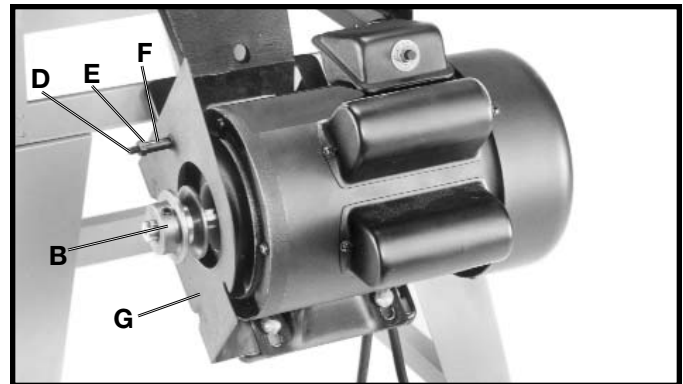
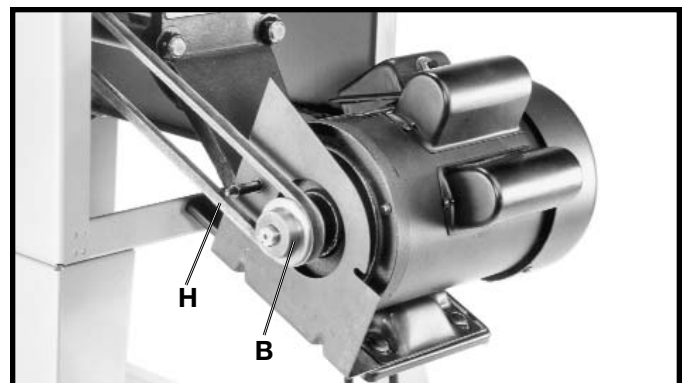
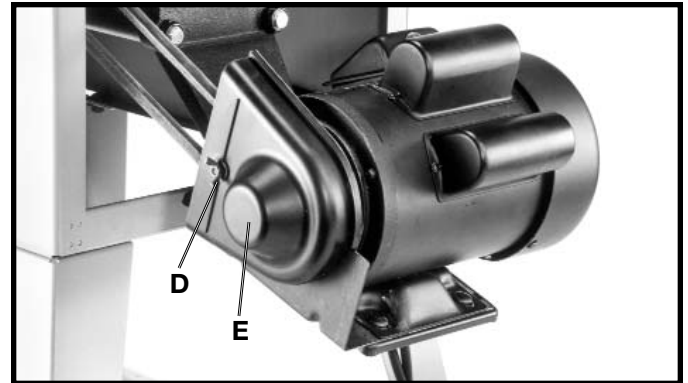

Fig. 23
Fig. 24
Fig. 26
5. Position belt and pulley guard bracket (G) Fig. 23, so the motor pulley (B) is centered and through the hole in the belt and pulley guard bracket (G), as shown in Fig. 24. Tighten the four hex nuts that fasten the motor to the motor mounting plate.
6. Using a straight edge, align the motor pulley with the arbor pulley. If necessary, adjust the motor pulley (B) Fig. 23, in or out on the motor shaft.
7. Lift up on the motor and assemble the drive belt (H) Fig. 24, to the arbor pulley and motor pulley (B). The weight of the motor will provide the correct belt tension.
9. Place a 1/4" flat washer onto the 1/4-20x1-1/2" hex head screw (D) Fig. 23. Place the spacer (F) Fig. 23, onto the 1/4-20x1-1/2" hex head screw (D) Fig. 23, and thread a 1/4-20 hex nut (E) Fig. 23, onto the hex head screw.
10. Align the hole in the outer cover (D) Fig. 26, with the 1/4-20x1-1/2" hex head screw (D) Fig. 23. Place the outer cover (E) Fig. 23, onto the hex head screw. Place a 1/4" external tooth lockwasher onto the hex head screw, thread a 1/4-20 wing nut onto the hex head screw, and tighten securely. **CAUTION** Make certain the outer cover does not interfere with the drive belt and the motor pulley.